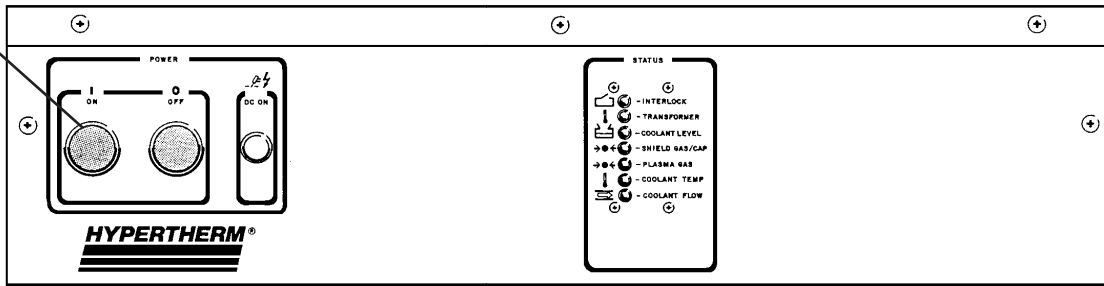

Figure 5-1 Controls and Indicators for System Checkout
The following procedure assumes the system includes an IHS system, and a Digital Remote (DR) V/C control module. Refer to Figure 5-1.